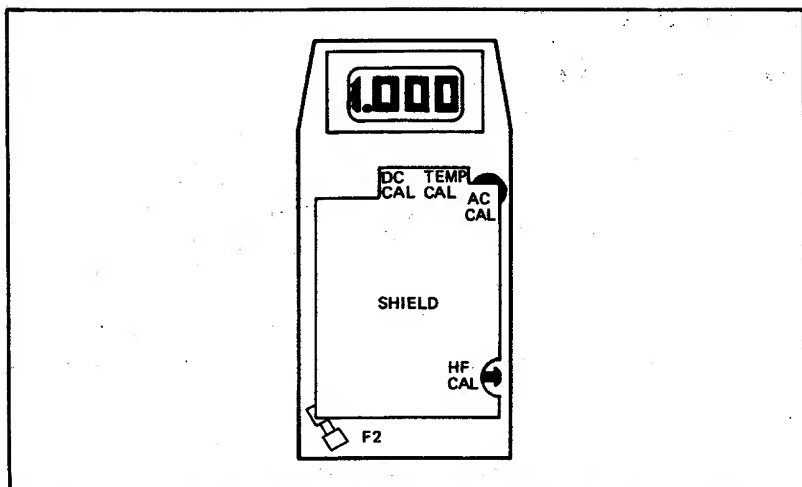

Figure 4-1. Calibration Adjustments Location
5. The backup fuse and all adjustments necessary to complete the calibration procedure are now accessible (see Figure 4-1).